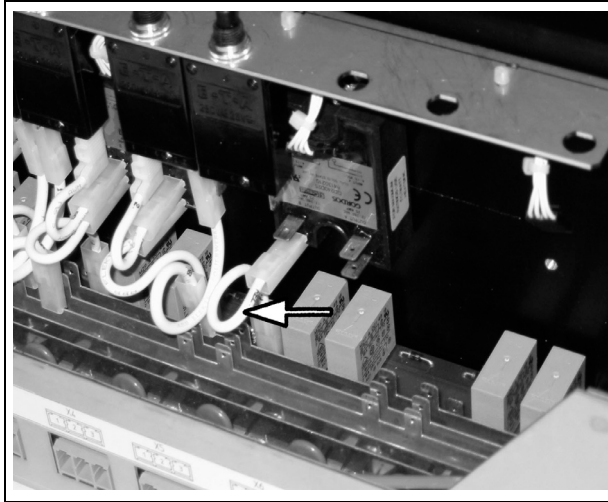

Fig. 7-1: Wiring on the Flat Plug Connection of Printed Circuit Board and Load Relay
8. Push the end of the wiring marked "P" onto the flat plug connection of the printed circuit board (see Fig. 7-1, page 7-37).